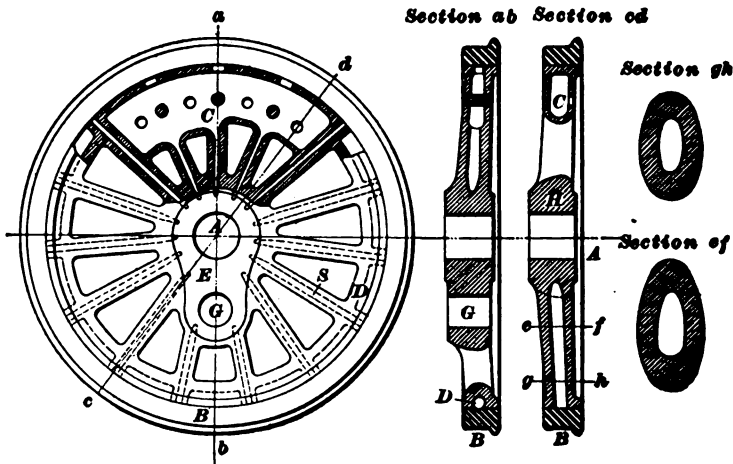
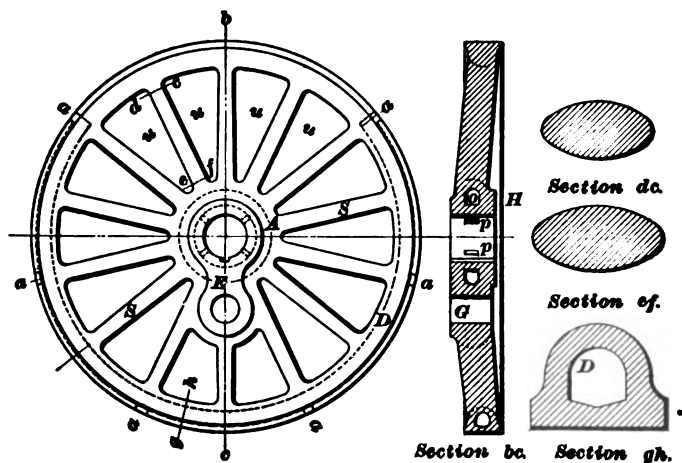
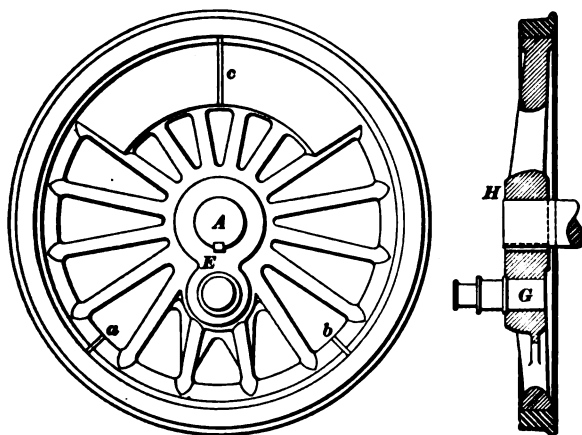

FIG. 23.
FIG. 24.
FIG. 25.
**73. Wheel Centers.**—Examples of driving wheels are shown in Figs. 23–26. They consist of the wheel center  $A$  on which is shrunk a tire  $B$ , Fig. 23. In this country the driving-wheel centers have hitherto been almost universally made of cast iron, but now steel castings are becoming more general. Sometimes the spokes  $S$  are cast solid, but usually they and the rim  $D$  are cast hollow, in the case of cast-iron centers. The hub  $H$ , the crank  $E$ , and the counterbalance  $C$  complete the driver.
The counterbalance is either cast in segments and bolted between the spokes, as in Fig. 24, or it is cast together with the wheel, either hollow as in Fig. 23, or solid as in Figs. 25 and 26. When cast hollow, lead is afterwards run in through the core holes.
The tires are shrunk on their centers. The wheel centers are turned as shown in section  $b c$ , Fig. 24, and the tire is bored somewhat smaller in diameter than that of the wheel center. The tire is then heated by means of a number of gas flames arranged in a circle, until it is sufficiently expanded to slip over
*Eight-Wheeled Engines.*—The wheel shown in Fig. 23 is the one most commonly used for eight-wheeled passenger locomotives. In this wheel the rim, spokes, and counterbalance are cast hollow. The drawing on the left of the figure represents the halves of two different wheels, the left-hand half representing in part elevation and part section the half of a main driver, while the right-hand half is a similar representation of half of a rear driver, the difference between the two
In Fig. 24 is illustrated the wheel center of a main driver for a high-speed passenger engine. In this wheel the spokes are cast solid, but the rim is hollow, except the upper portion *aba*. The cored part *o* of the rim does not extend to the outside (see section *gh*), and the only openings in it are the core holes *a*.
Fig. 25 shows another style of main driver for a standard